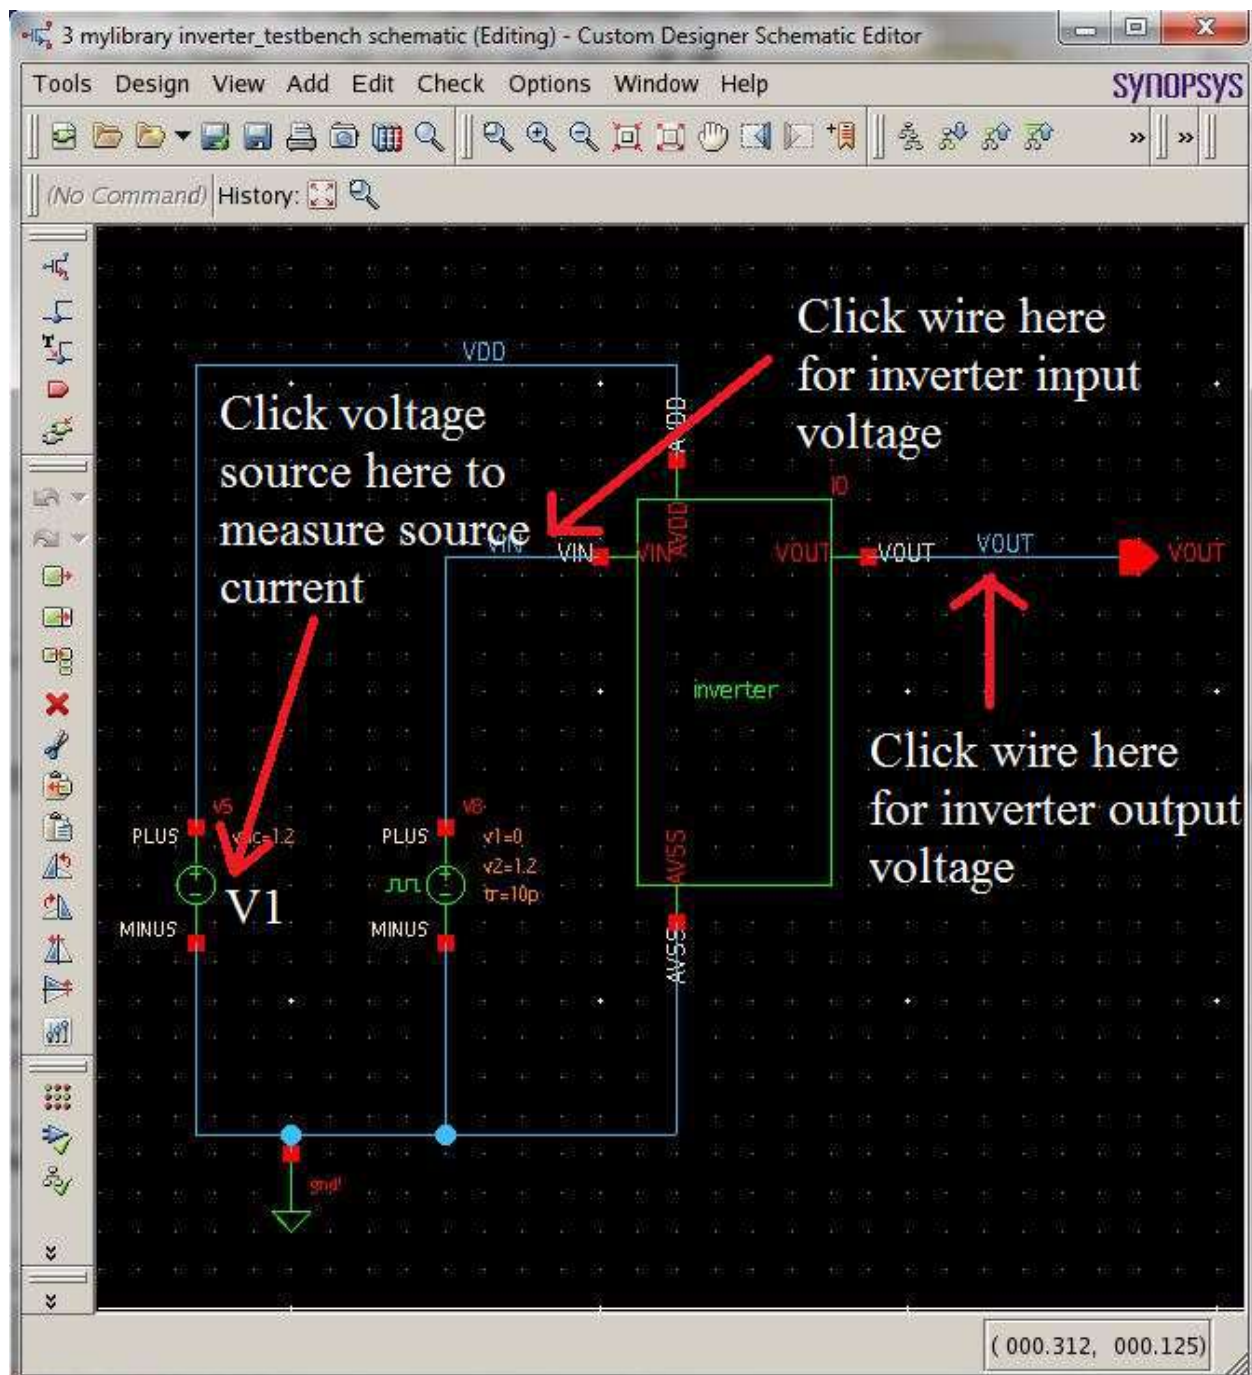

Figure 24: Clicking on the Schematic Window
this case, click on  and select the wire labeled “VOUT” as shown below in figure 24 in the schematic window. You can also write an equation that uses the values of some nodes in that schematic.
- 2) In the same row, click under the expression column and choose the input node from the schematic. In this case, click on  and select the wire labeled “VIN” as shown below in figure 24 in the schematic window.
- 2) In the same row, click under the expression column and choose the voltage source from the schematic. In this case, click on  and select the voltage source labeled “V5” as shown below in figure 24 in the schematic window. Notice that current is being measure rather than voltage.